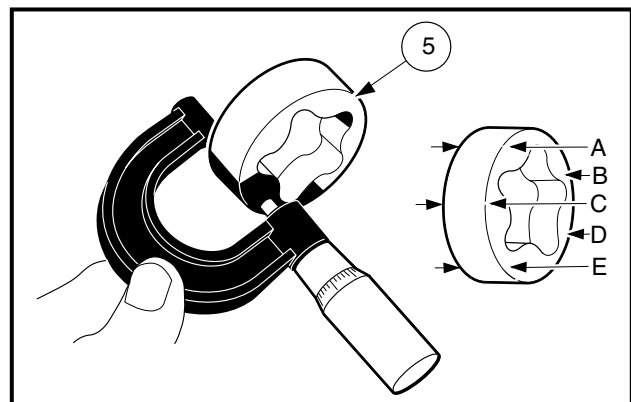

Figure 2-63 Measure Thickness of Outer Rotor
- 4.4. Use a micrometer to measure the thickness of the outer rotor (Figure 2-63, Page 2-29).